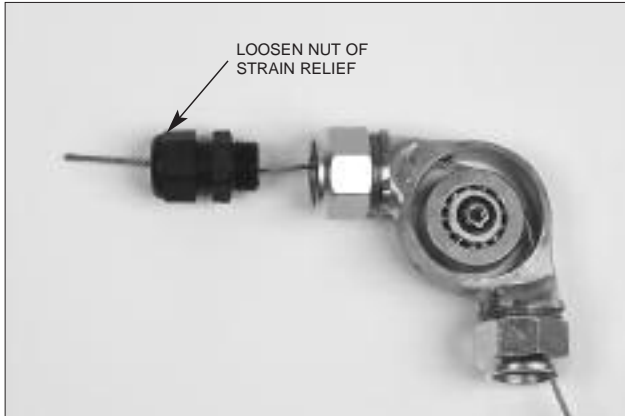

FIGURE 4
4. Loosen the nut on the strain relief and thread the wire rope through the strain relief. See Figure 4.